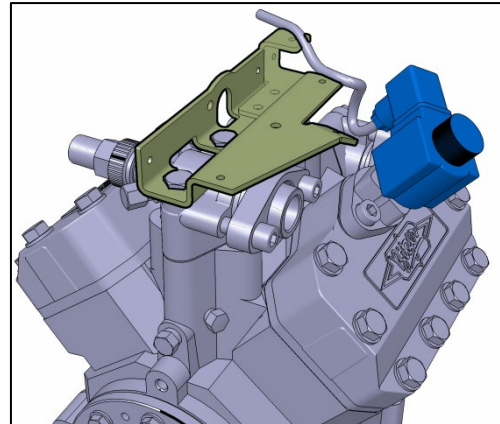

Figure 3
- Connect the refrigerant recovery unit (Fig. 3) and perform refrigerant vacuum.